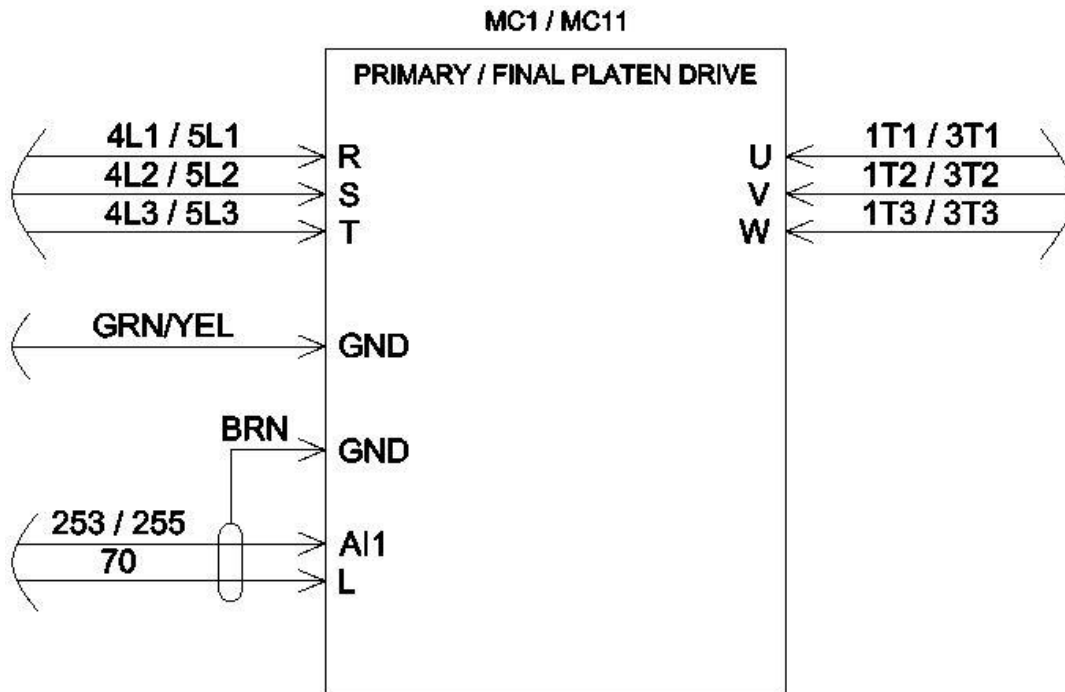

Figure 17: Existing Wiring Connection Diagram
6.4.10 See *Figure 17* to confirm correct wiring configuration.